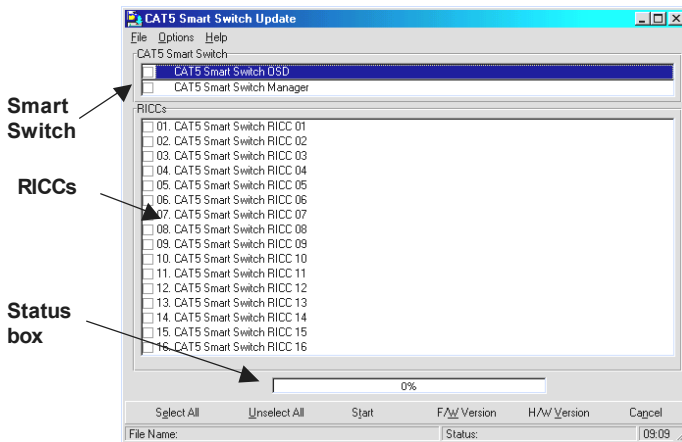

Figure 26 The Smart CAT5 Switch Update window
1. Start the Smart CAT5 Update software. The Smart CAT5 Update window appears. See Figure 26.
2. In the **Switch Unit** box, check the OSD option. See Figure 26.